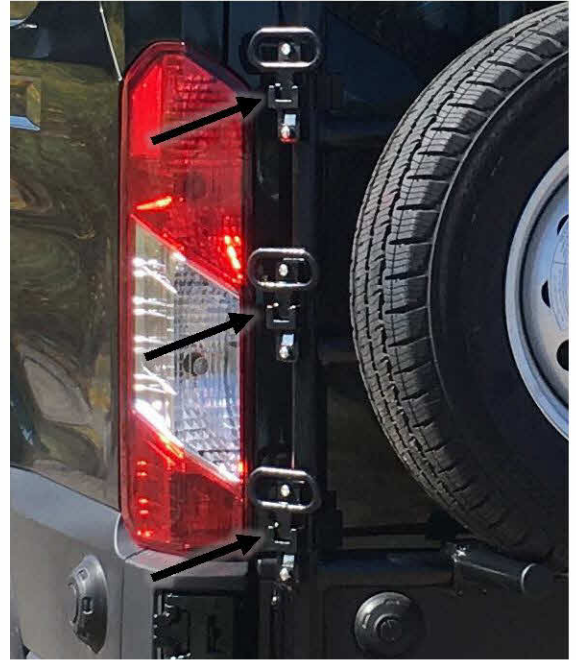

Figure 7: Step Mounting Locations
10. Bolt the fold-down step on the outside rail of the ladder in desired locations. Reference Figures 7.